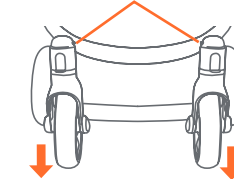

Fig. 1d
- Push release button on the side of the wheel hub and pull wheel assembly from hub (Fig. 1d).